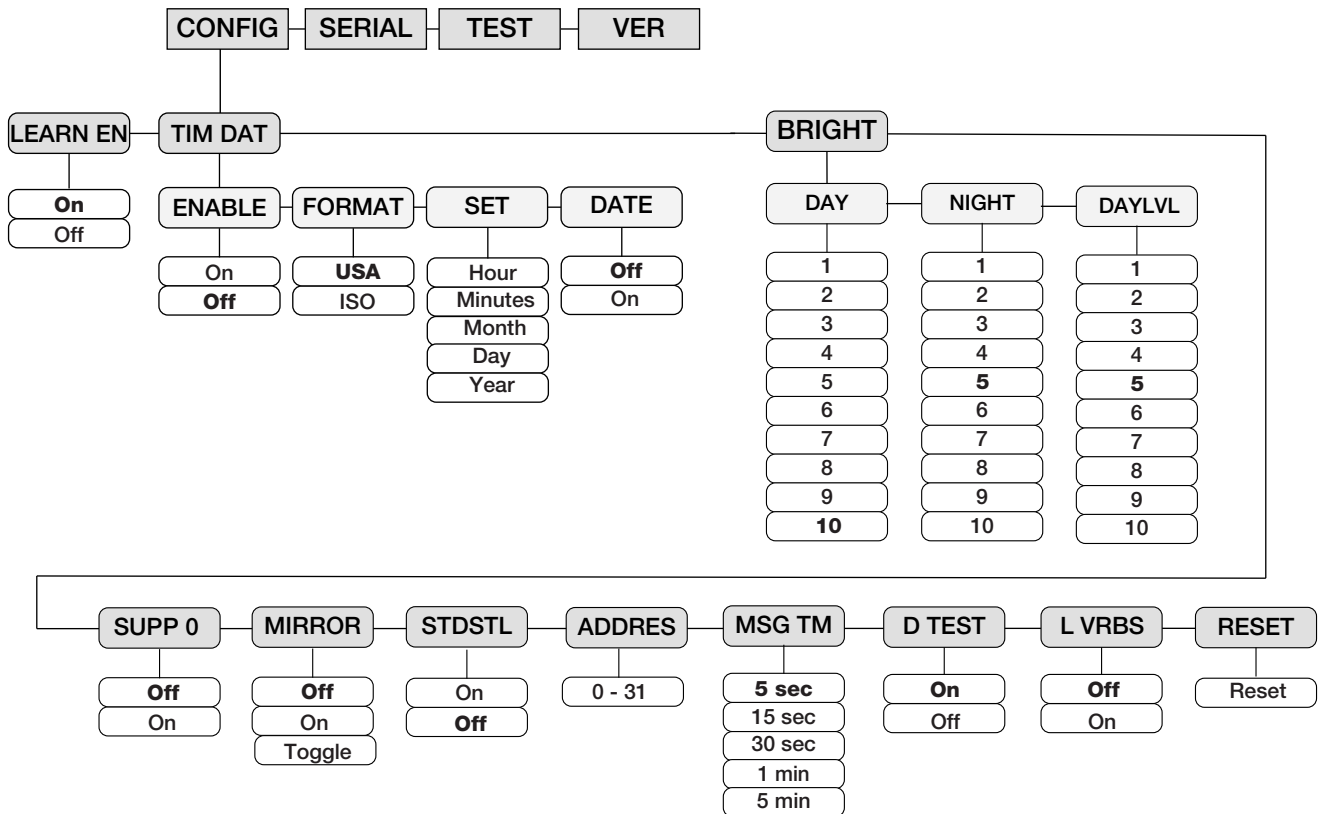

Figure 3-3. Configuration Main Menu Choices
1. Go to **CONFIG** and enable Time and Date under **Enable** (Figure 3-3 on page 29).